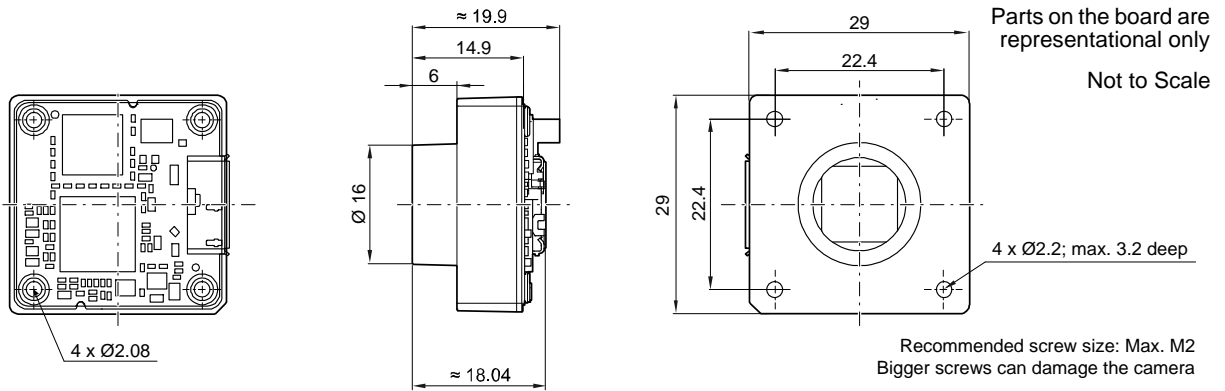

Fig. 10: Mechanical Dimensions (in mm) for Cameras with S-mount Lens Adapter
- dart cameras equipped with an S-mount lens adapter are as shown in Figure 10.